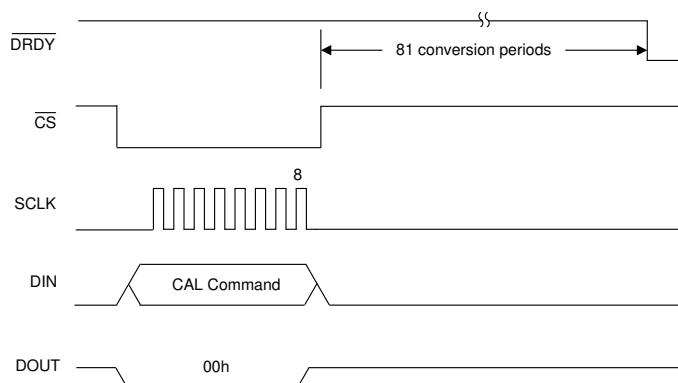

Figure 7-21. Calibration Command
- OFSCAL command. After the command is sent, $\overline{\text{DRDY}}$ is driven low 81 conversion periods later to indicate calibration is complete. The OFFSET register is updated with the new calibration value. As shown in Figure 7-21, the first data output uses the new OFFSET value.
- GANCAL command. Apply a positive dc full-scale calibration voltage. After the command is sent, $\overline{\text{DRDY}}$ is driven low 81 conversion periods later to indicate calibration is complete. The ADC calculates GAIN such that the full-scale code is equal to the applied calibration signal. As shown in Figure 7-21, the first data output uses the new GAIN value.